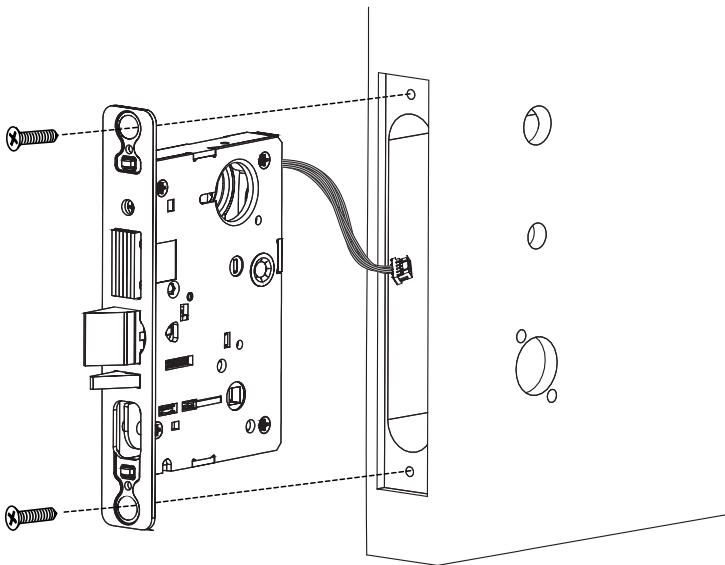

Figure 5-4A
1. Feed wires through 1-5/16" diameter hole on inside of door while installing lockbody. (Figure 5-4A)
3. Install, but do not tighten two (2) #12 x 1" combination screws through lockbody. (Figure 5-4A)